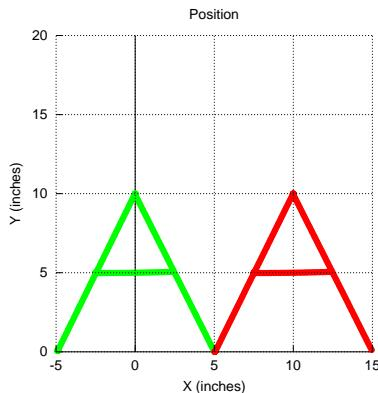

Figure B.30: A plot generated by the program `recordxy4.ch`.
2. Based on the program `traceon4.ch` developed in Exercise 2, write a program `recordxy4.ch` to record and plot the traced trajectories for two Linkbot-Is with two letters of 'A' as shown in Figure B.30.